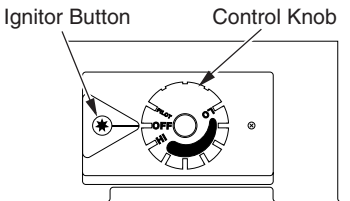

Figure 29 - Control Knob In The OFF Position
5. Turn control knob counterclockwise  to the PILOT position. Press in control knob for five (5) seconds (see Figure 29).